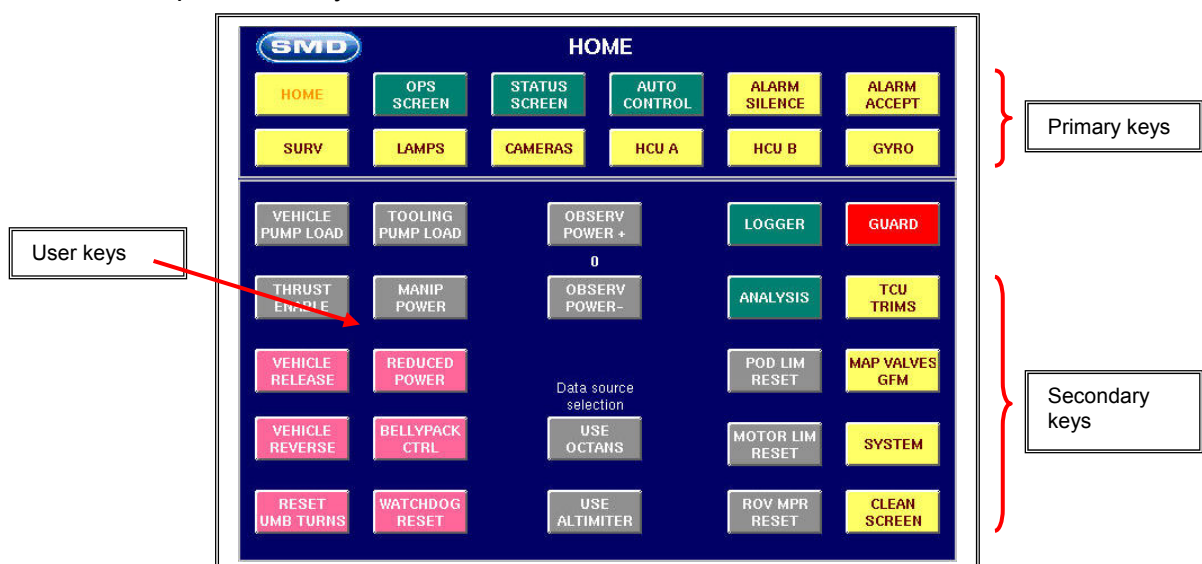

Figure 7 – Touch Screen, Home page
The system features a 'Touch Screen' (TS) based operator interface, which provides access to the range of controls and functions for the ROV control system. The Home screen shown in figure 7 below provides the main user controls for the ROV.
The Home screen provides the main user controls for the ROV. Pressing [HOME] at any time returns the touch screen to the display shown in Figure 7.